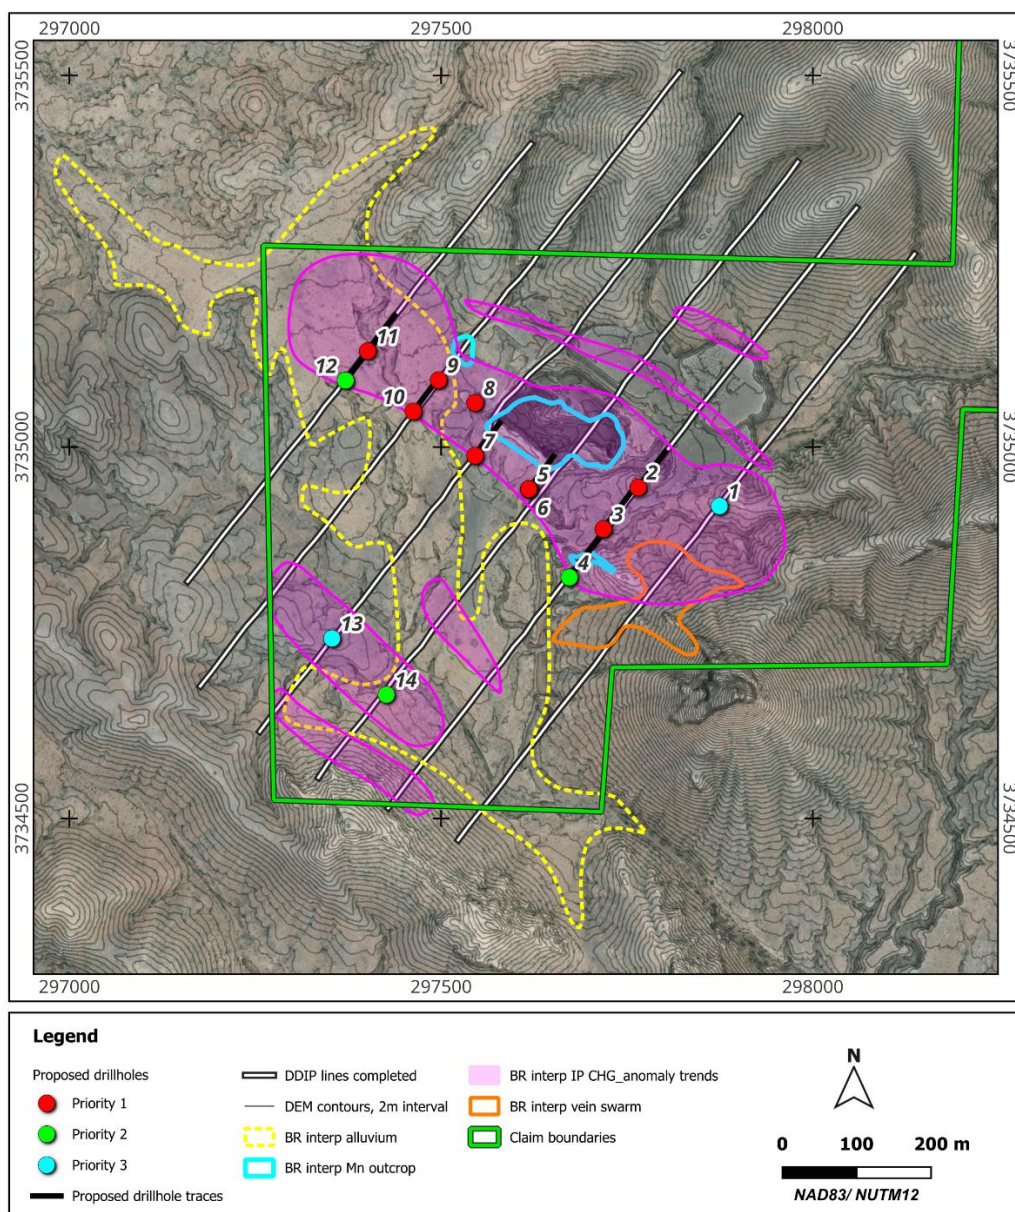

Figure 1. Black Rock Manganese Mine Prospect – Geophysical IP Survey Data Interpretation
Processing and interpretation of the survey data was further carried out by the Company's independent geophysical consultants, with strong trends identified showing the anomalous zones extending in a NW-SE direction along strike of the massive manganese oxide mineralisation exposed at the Black Rock Manganese Mine site (Figure 1).
From the interpretation works conducted, the Company's geophysical consultants delineated fourteen (14) priority drill targets - comprising nine (9) priority 1, three (3) priority 2, and two (2) priority 3 targets (Figure 1).
Furthermore, the IP interpretation works identified multiple anomaly trends in-parallel to the main (and largest) zone coincident with the Black Rock Manganese Mine site (Figure 1).